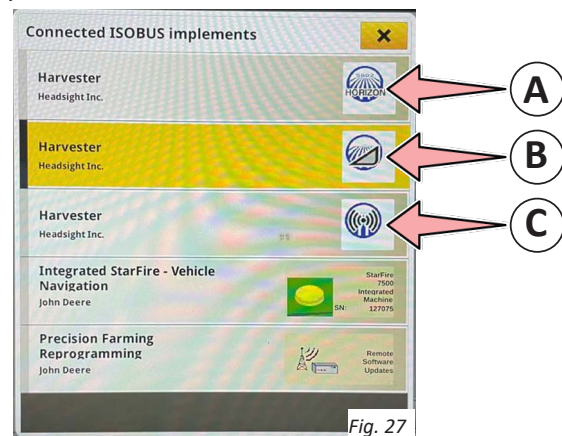

Fig. 27
7. Select the middle 'Harvester Headsight Inc.' option (B on Fig. 27 on page 16). This is the AirFlex specific application where you can check and adjust air pressure, change header modes (FLEX or RIGID), and switch between reel functions and header tilt/skid shoe functions. Set the header mode you will want to calibrate and go to the diagnostics menu.
9. Return to the first 'Harvester Headsight Inc.' option (A on Fig. 27 on page 16) and select 'CAL' as shown below to enter the calibration screen.